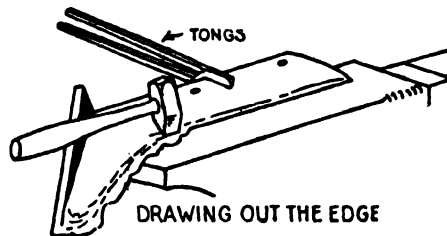

Fig. 76
5. Return it to the fire with the cutting edge down and the edge of the point over the tuyere. Heat to a bright red, remove from the fire and turn upside down on the anvil so that the side of the point rests flat on the anvil. With a peen or cross-peen hammer draw out the cutting side of the point to a thin edge for three or four inches. Fig. 76. Heat further